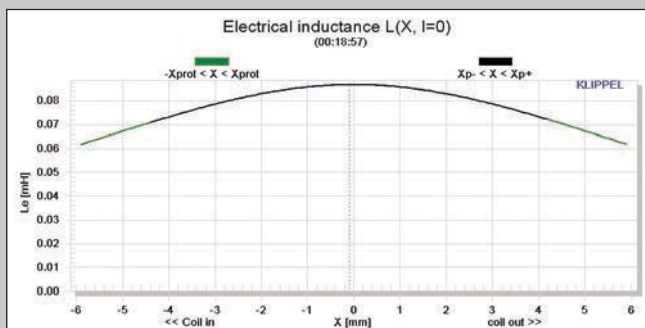

Figure 9: Klippel Analyzer Le (X) curve for the Fountek FR89EX
Figure 9 gives the inductance curve Le(X) for the FR89EX. Inductance will typically increase in the rear direction from the zero rest position as the voice coil covers more pole area; however,